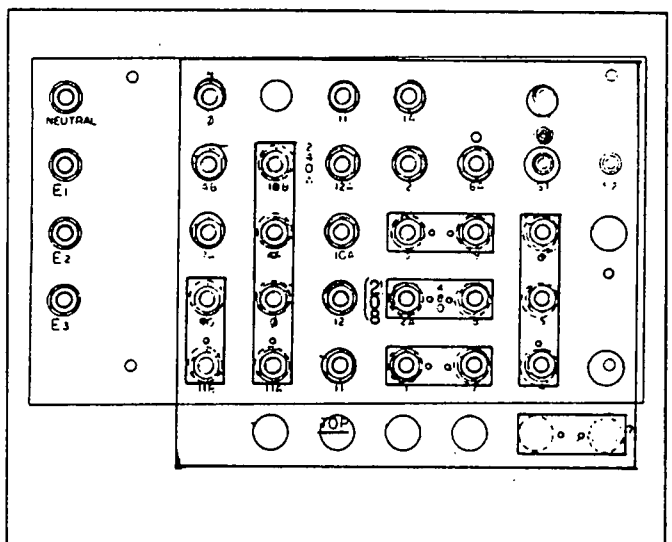

Figure 5. High Voltage Board-120/208 Volts
- Figure 5 shows the high voltage board with 120/208 volts, 3-phase selected.